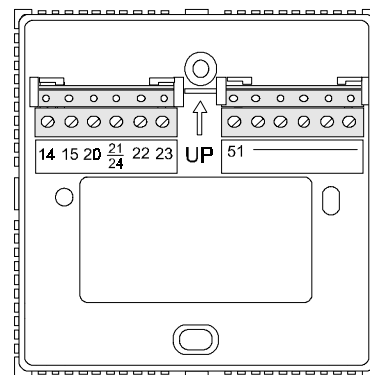
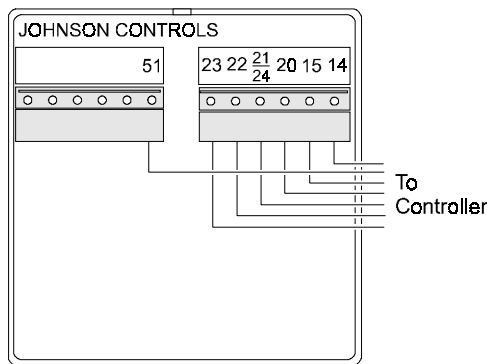

Figure 9: Terminal Locations Shown on Inside of TM-9100 Surface-Mount Base
Figure 11: Inside View of TM-9100 Cover Shown with Terminal Blocks Positioned for Wallplate Mounting
Note: The terminal locations on the back of the TM-9100 cover are opposite of those marked on the base. (See Figure 9.) Terminal 14 will be located in the farthest right position of the right terminal block when viewing the inside of the TM-9100 cover as shown in Figure 11.
6. Push the terminal blocks onto the pins located inside the TM-9100 cover with screw heads toward the board and the wire leads exiting the terminal blocks from the bottom as shown in Figure 11.